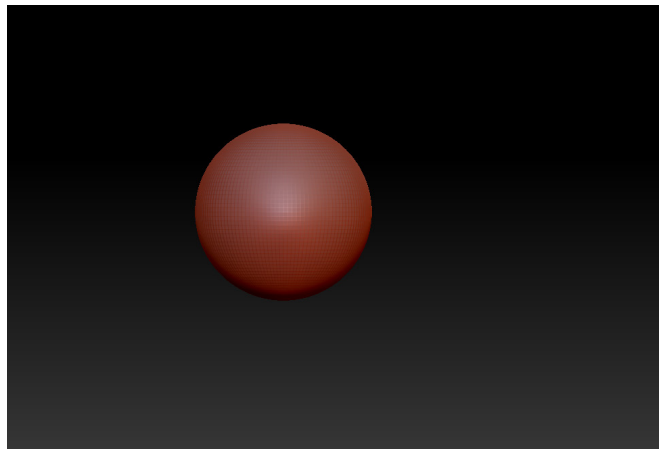

Figure 3-110 The Sphere3D primitive created on the canvas
2. Choose the **Current Tool** button from the **Tool** palette; a flyout is displayed. Choose the **Sphere3D** primitive from this flyout. Press and hold the left mouse button and drag the cursor on the canvas; a sphere is created in the canvas, refer to Figure 3-110. Next, choose the **Edit** button from the top shelf to switch to the edit mode.